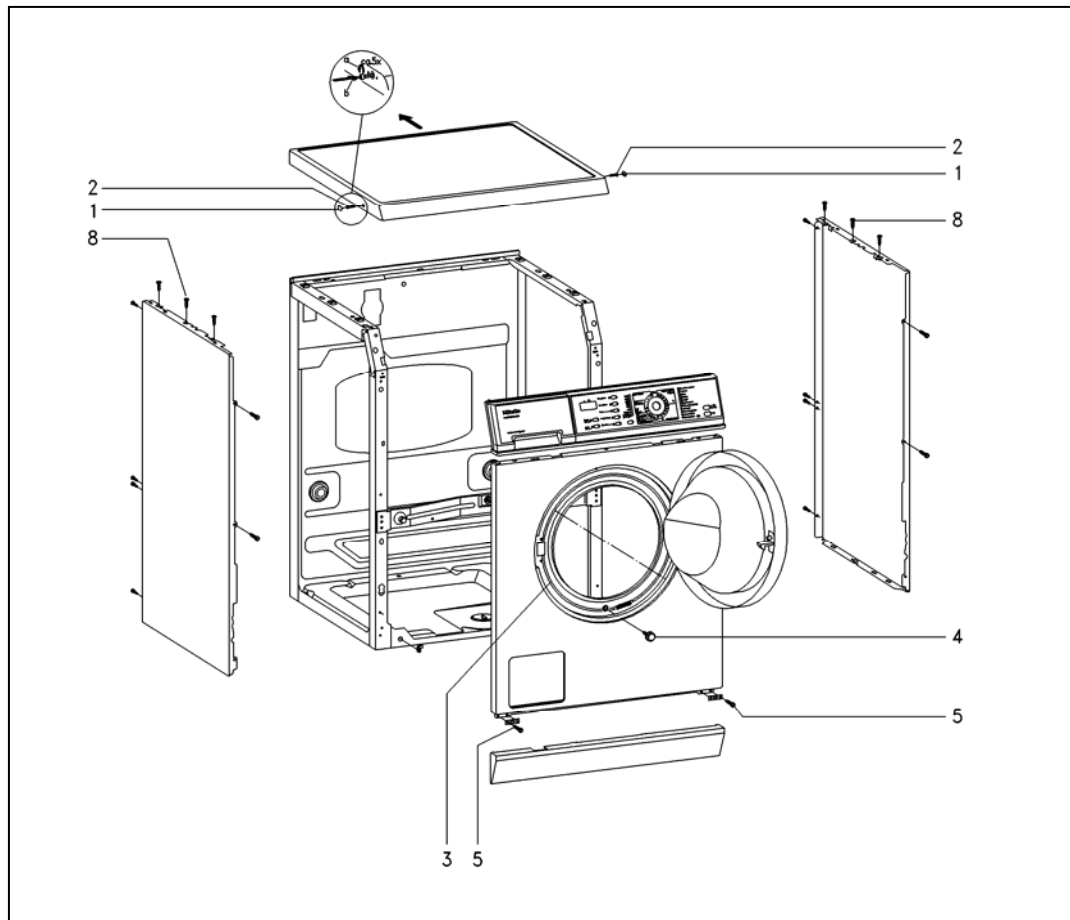

Figure 010-1: Layout of Components
3. Remove the three screws from the rear edges of each panel, Figure 010-1.